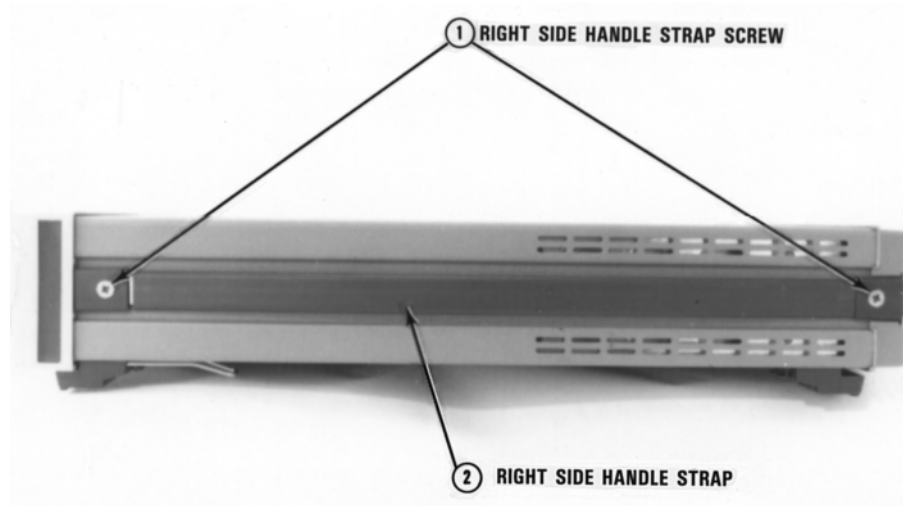

Figure 35. 3458 Right side
3. Refer to Figure 35. Turn the instrument so its right side faces you (as seen from the front).
9. Refer to Figure 35. Turn the instrument so its right side faces you.